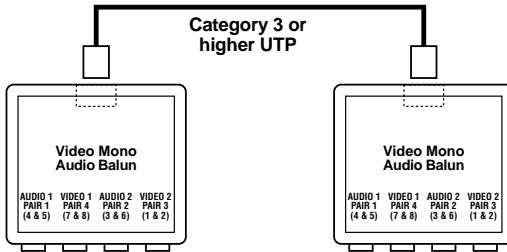

Figure 3-2. Two Baluns cabled together.
8. Plug the other end of each UTP cable into the appropriate video wall outlet or patch panel. When this is done, a complete cabling circuit should run between the two baluns, as shown in Figure 3-2.